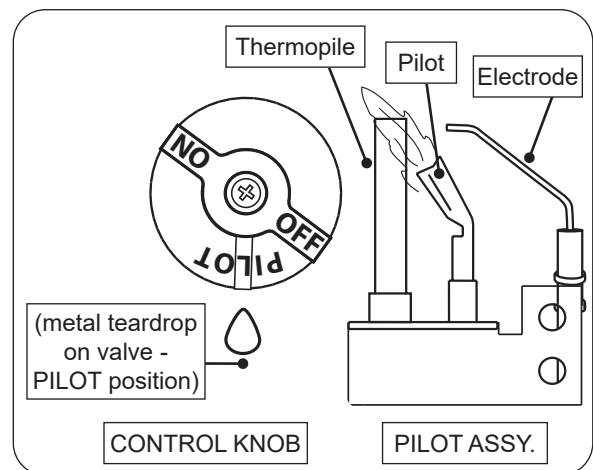

Fig. 23-1 Pilot lighting
3. Locate the pilot assembly on the side or rear of the burner pan (see Fig. 23-1).
4. Turn the control knob counterclockwise to **PILOT**. Push the knob **firmly and fully** in and hold. Push the piezo igniter button several times until the pilot lights. Continue to hold the knob in for about one (1) minute after the pilot is lit. Release the knob and it will pop back out. The pilot will remain lit. See Fig. 23-1. If it goes out, repeat steps 2-4.